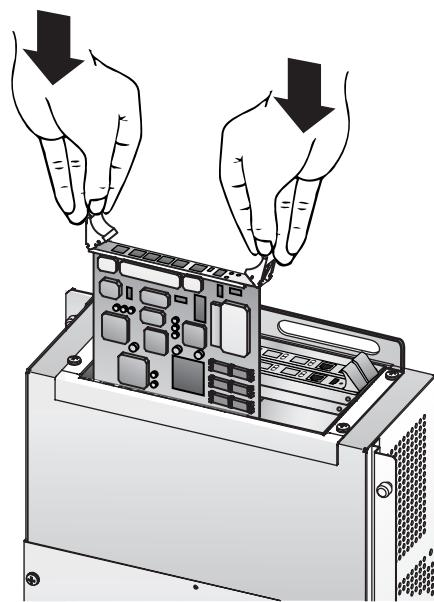

Figure 24: Inserting the Interface Manager card
2. Align the sides of the Interface Manager card with the guides in either one of the 4U slots in the expansion cage as shown in Figure 24.